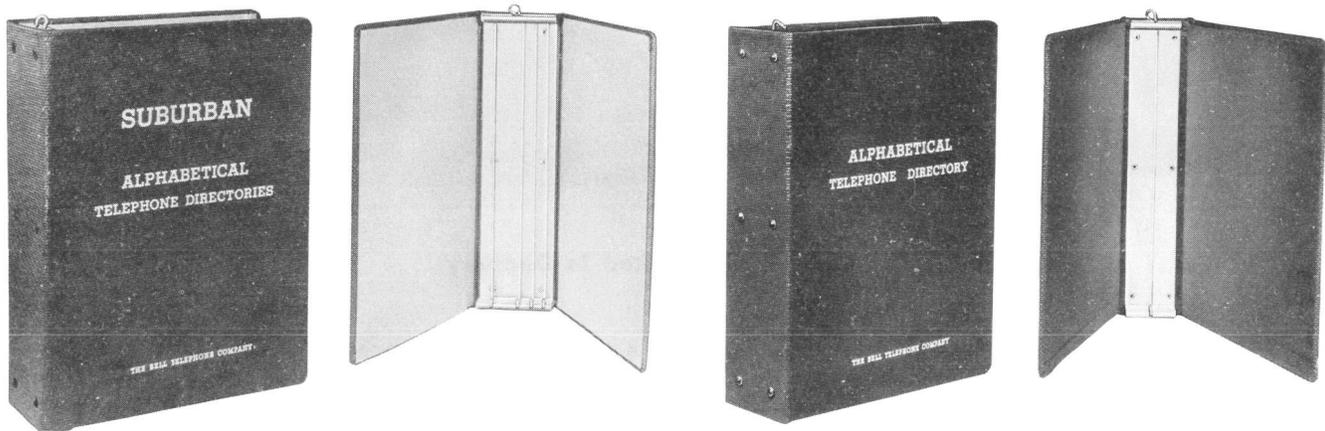
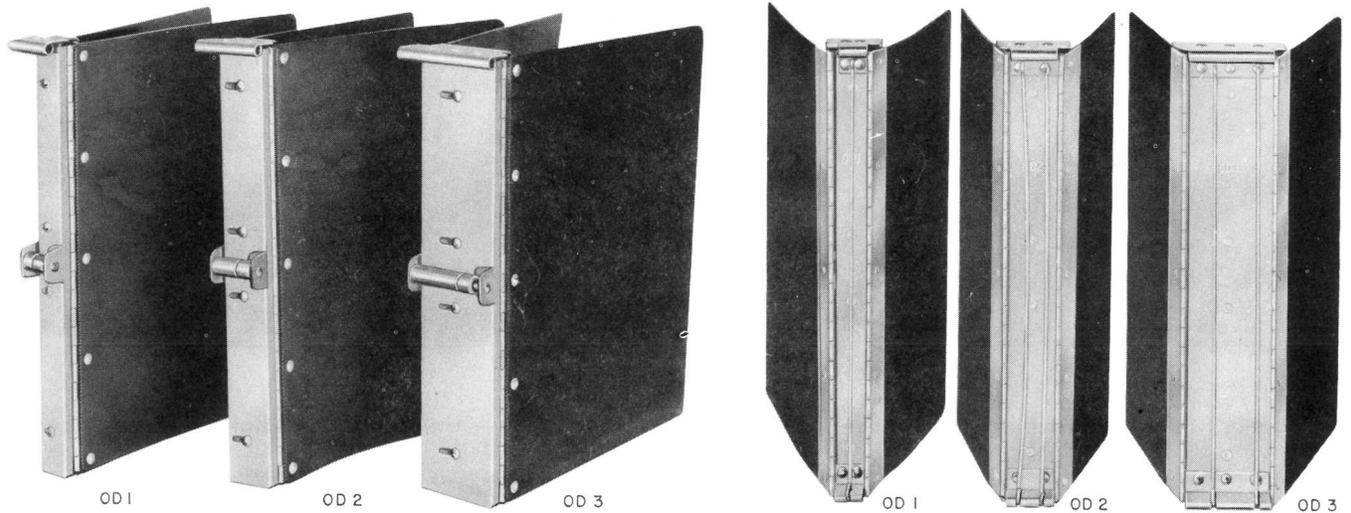
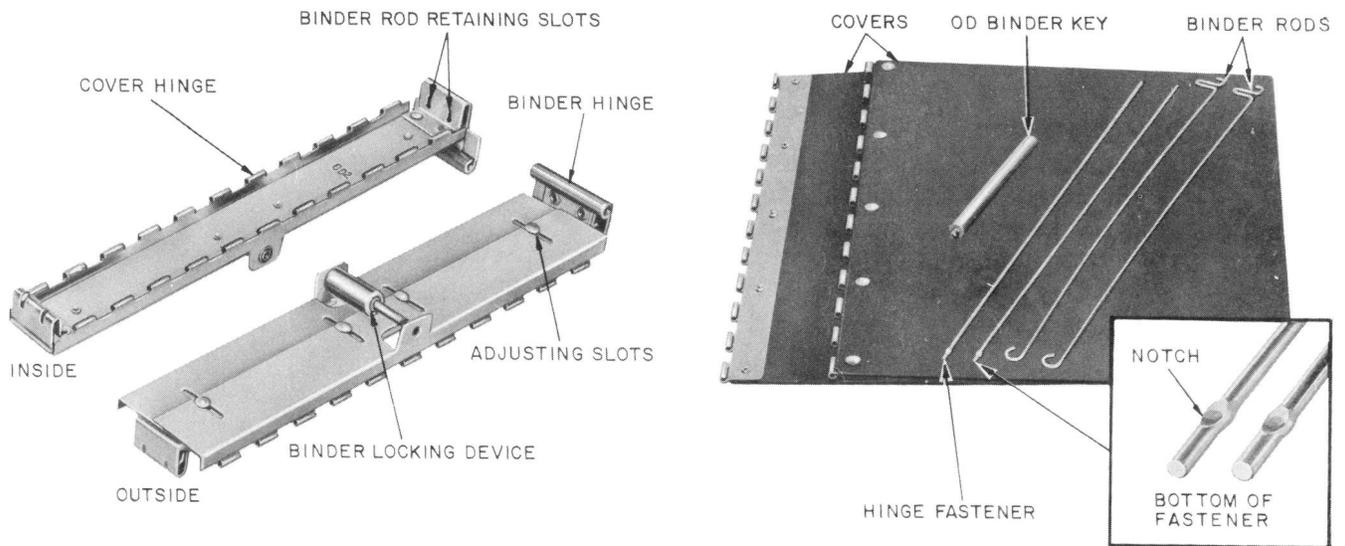

Fig. 13 — Directory Binders (Supplied Locally)
Fig. 14 — OD Directory Binders
Fig. 15 — OD Binder Assembly
4.01 Fig. 13 shows various type binders that are supplied locally. Fig. 14 shows the OD directory binders and Fig. 15 is the OD binder assembly.